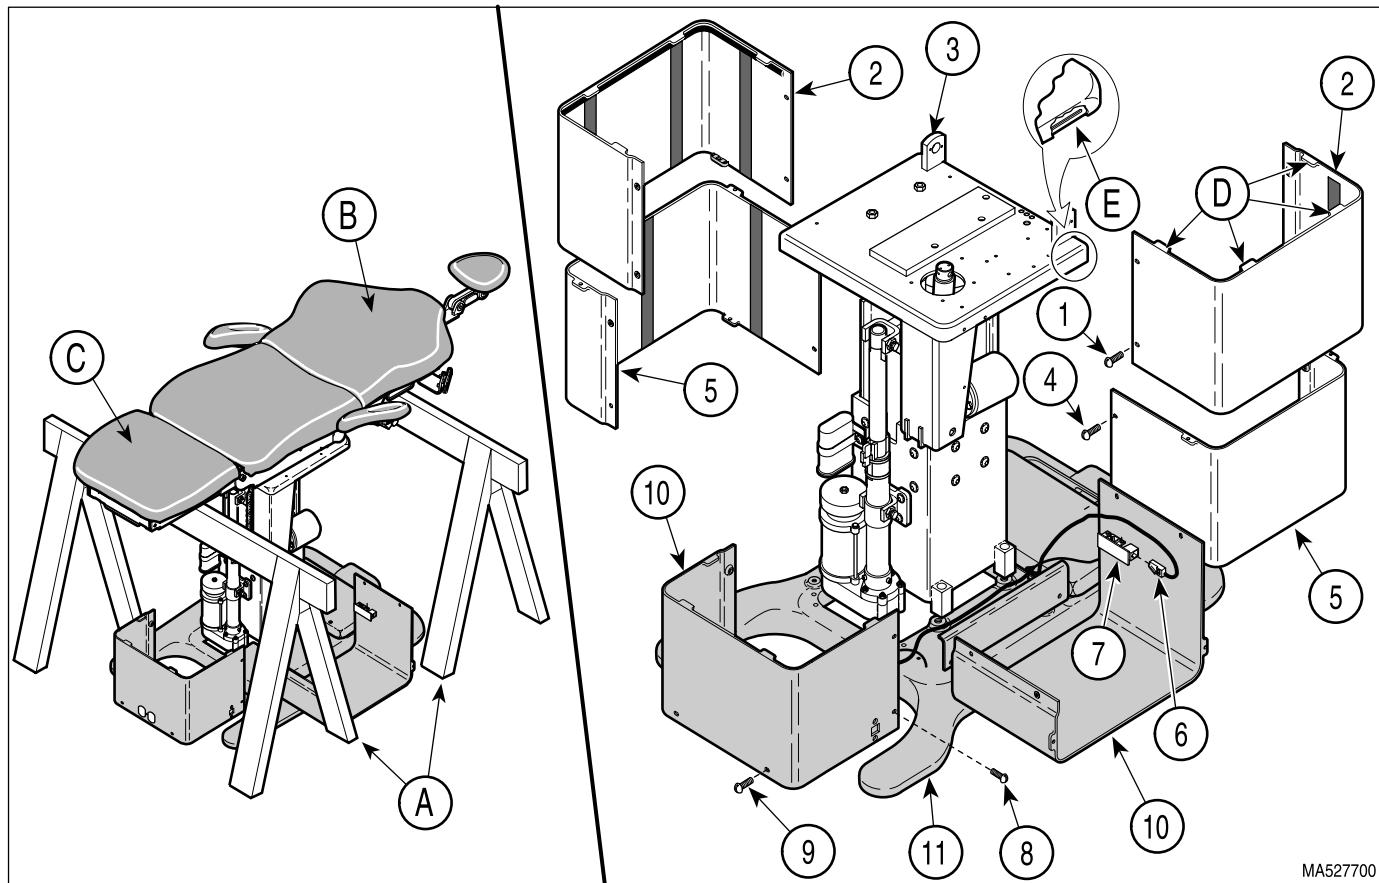
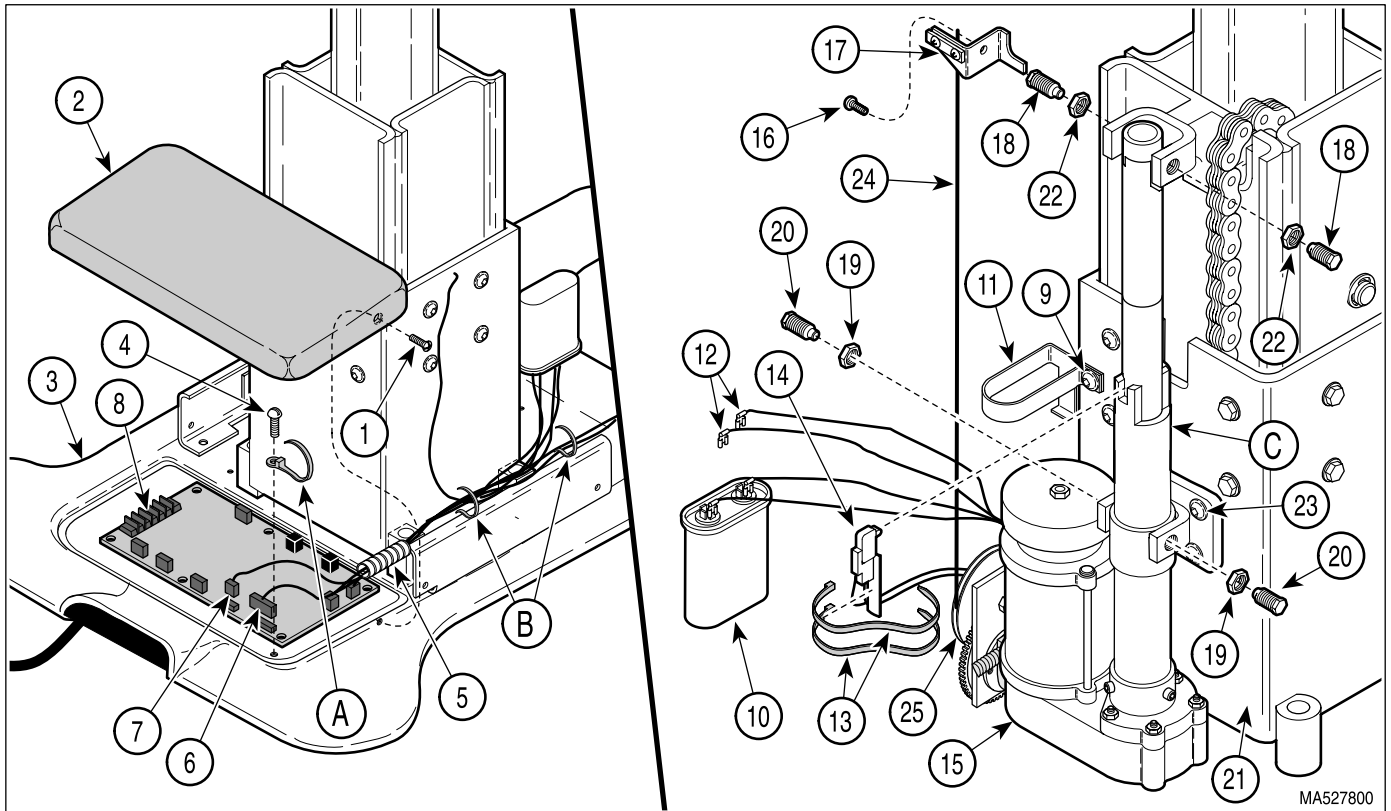
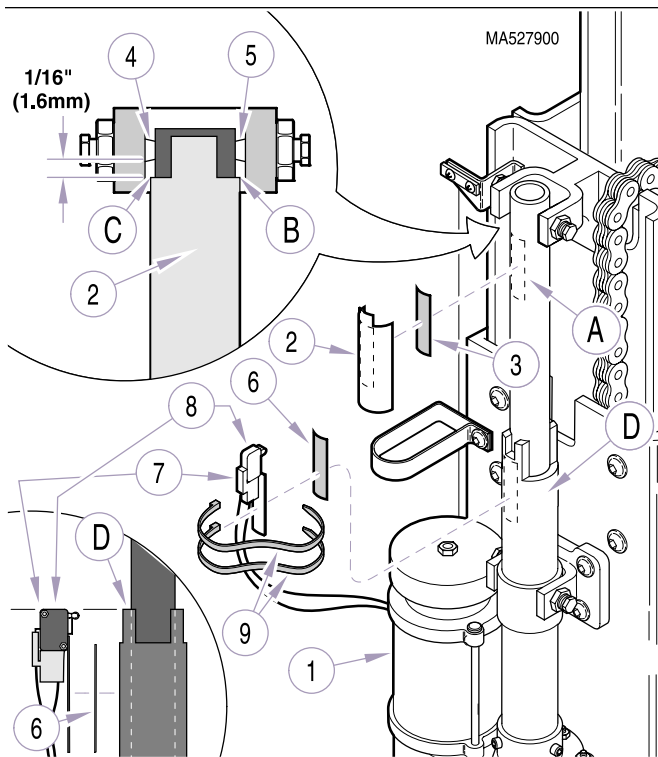

Figure 4-15. Base Shrouds Removal / Installation
Figure 4-16. Base Actuator Removal / Installation
Figure 4-17. Base Limit Switch / Limit Switch Stop Removal / Installation
- (3) Unplug table power cord from outlet receptacle.
- (4) Remove four screws (1, Figure 4-15) and R.H. and L.H. outer shrouds (2) from column adapter weldment (3).
- (5) Remove four screws (4) and R.H. and L.H. middle shrouds (5).
- (6) Disconnect two modular cords (6) from two inlet PC boards (7).
- (7) Remove four screws (8), and four screws (9); then partially remove R.H. and L.H. inner shrouds (10) from base casting (11).
- (8) Place supports (A) under back section (B) and foot section (C).
- (9) Remove two screws (1, Figure 4-16) and PC board cover (2) from base casting (3).
- (10) Remove screw (4) and cable strap (A) from base casting (3). Cut cable strap.
- (11) Cut all cable ties (B) securing base actuator wires to other wires.
- (12) Remove plastic wrapping (5) from around wires.
- (13) Disconnect base wire harness (6) and brake wire harness (7) from PC control board (8).
- (14) Loosen screw (9).
(1) Remove jam nuts (19 and 22, Figure 4-16) from pivot screws (18 and 20).
- (4) Coat the threads of two pivot screws (20), which are located directly in front of jam nuts (19), with permanent threadlocking adhesive (Loctite 262).
- (5) Install base actuator (15) on column assembly (21) and secure with two pivot screws (20). Tighten pivot screws to 50 to 60 in-lbs. (5.6 to 6.8 N•m).
- (6) Tighten two jam nuts (19) to 45 - 55 ft-lbs. (61 to 74.6 N•m).
- (7) Install plastic wrapping (5) around base actuator wires.
- (8) Connect brake wire harness (7) and base wire harness (6) to PC control board (8).
- (9) Connect two actuator wires (12) to terminals of base capacitor (10).
- (10) Slide base capacitor (10) into capacitor strap (11) and secure by tightening screw (9).
- (11) Secure wires together with cable strap (A). Secure cable strap to base casting (3) with screw (4).
- (12) Secure wires together as a bundle with two or more cable ties (B).
- (13) Install PC board cover (2) on base casting (3) and secure with two screws (1).
- (14) Plug one modular cord (6, Figure 4-15) into each inlet PC board (7).
On programmable tables, make sure cable bracket (17, Figure 4-16) is clear of the column assembly. Failure to do so could result in the cable bracket being damaged.
- (16) Run BASE UP and / or BASE DOWN function until shaft (C, Figure 4-16) of base actuator (15) is aligned with bracket of column assembly (21).
- (17) Coat threads of two pivot screws (18), which are directly in front of jam nuts (22), with permanent threadlocking adhesive (Loctite 262).
- (18) Secure shaft (C) of base actuator (15) on column assembly (21) and secure with two pivot screws (18). Tighten pivot screws to 50 to 60 in-lbs. (5.6 to 6.8 N•m).
- (19) Tighten two jam nuts (22) to 45 - 55 ft-lbs. (61 to 74.6 N•m).
- (20) Tighten three screws (23) to 23 - 27 ft-lbs (31 - 36 N•m).